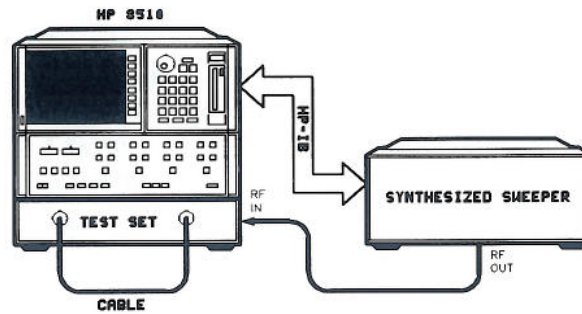

Figure 3-2. Swept Frequency Accuracy Test Set Up
1. Connect the equipment as shown in figure 3-2.